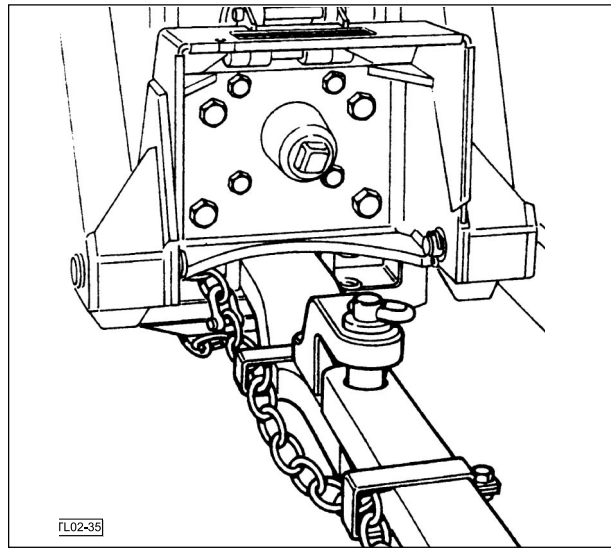

Fig.2-35
- A safety chain will help control drawn equipment should it be accidentally separated from the drawbar while transporting. Using the proper adaptor parts, attach the chain to the tractor drawbar support or other specified anchor location. Provide only enough slack in the chain to permit turning. See your Dealer for a chain with a strength rating equal to, or greater than the gross weight of the towed machine (Fig. 2-35).